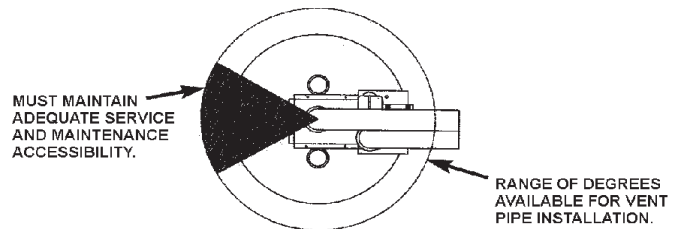

FIGURE 6.
- The location selection must provide clearances for servicing and proper operation of the water, see Figure 6.